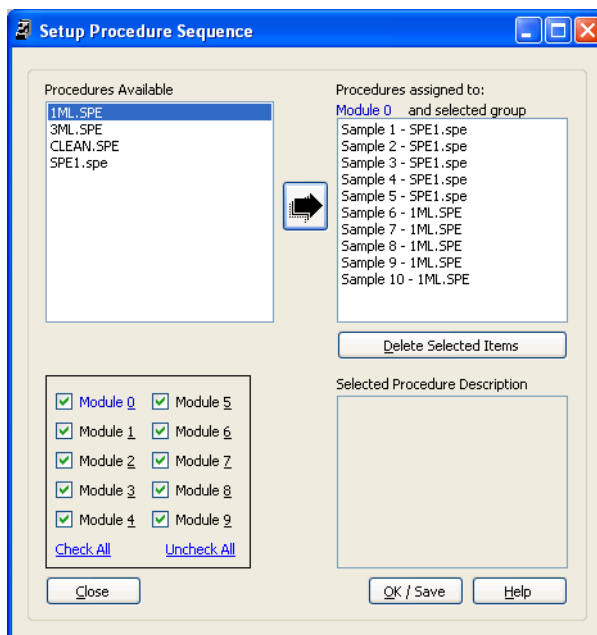

Figure 29. Setup Procedure Window
- 6 Repeat steps 2 through 5 until a procedure has been assigned to all samples. In the example shown in Figure 29, the procedure "SPE1.spe" has been assigned to samples 1 through 5 and procedure "1ml.spe" to samples 6 through 10 for all modules.